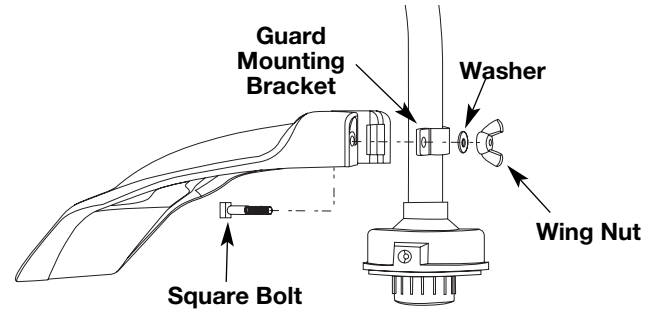

Fig. 3
2. From inside the cutting attachment shield, push the square bolt through the hole until the threaded end protrudes through the guard mounting bracket (Fig. 3).